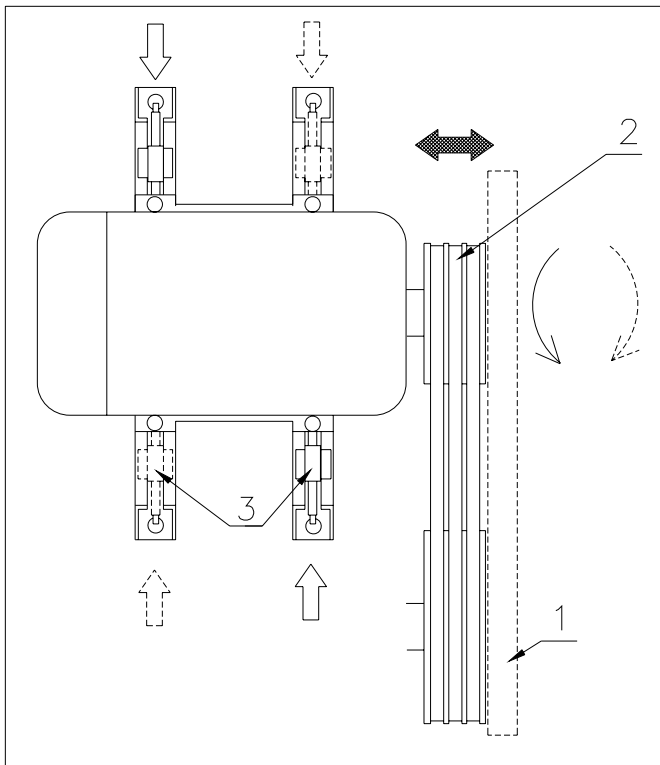

Fig. 7.9
Check afterwards if both pulleys are still aligned (see Fig.7.9).
When the motorshaft is not parallel to the pumpshaft, the motor can be rotated as shown in fig.7.9. Loosen the motor fixing bolts and use the tensioners (3) to rotate the motor. If necessary, one of the tensioners can be placed into the rail above the motor.